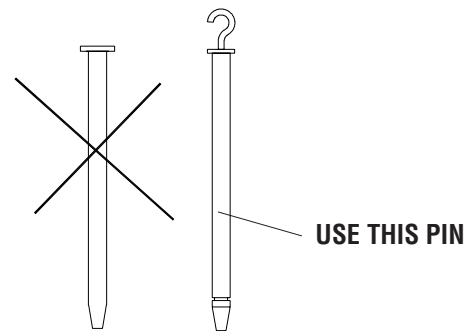

Figure 18
Step 7: Re-pin QMB to Wall (See Figure 18)